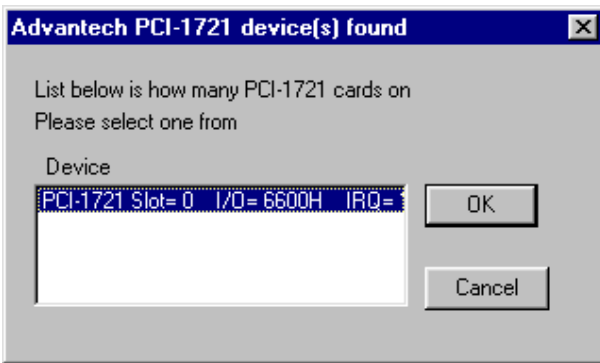
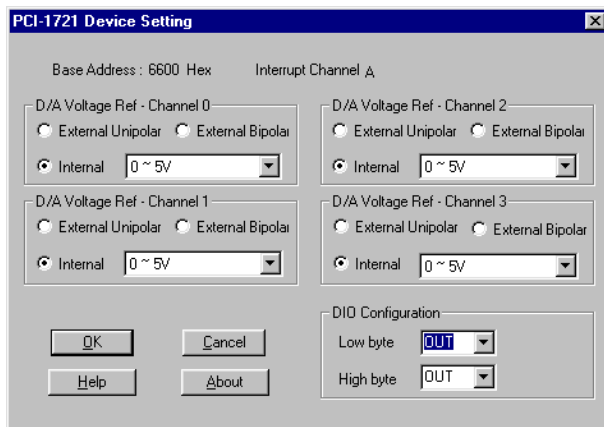

Fig. 2-9 The “Device(s) Found” dialog box
Fig. 2-10 The Device Setting dialog box
Step 3: Scroll down the *List of Devices* box to find the device that you wish to install, then click the *Add...* button to evoke the *Device(s) found* dialog box such as one shown in Fig. 2-9. The *Device(s) found* dialog box lists all the installed devices on your system. Select the device you want to configure from the list box and press the **OK** button. After you have clicked **OK**, you will see a *Device Setting* dialog box such as the one in Fig. 2-10.
Step 4: On the *Device Setting* dialog box (Fig. 2-10), you can configure the voltage source either as *External* or *Internal*, and specify the voltage output range for the 4 D/A channels.